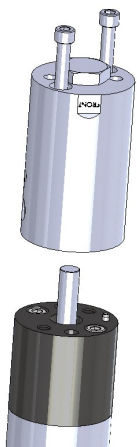

FIG. 1
5. WITH ONE HAND SUPPORTING THE INLET BLOCK, REMOVE THE TWO 1/4-28 X 3-1/2" SOCKET HEAD CAP SCREWS USING A 3/16" ALLEN KEY. (FIG. 1)
6. SLIDE INLET BLOCK OFF THE PISTON AND SET ASIDE (FIG. 1)